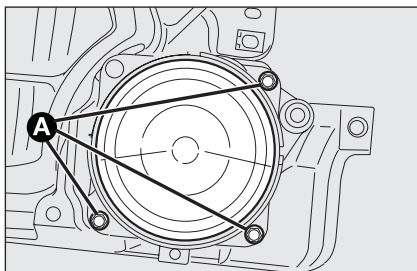

fig. 16
- remove the lens fig. 16 by loosening the three fastening screws **A**;